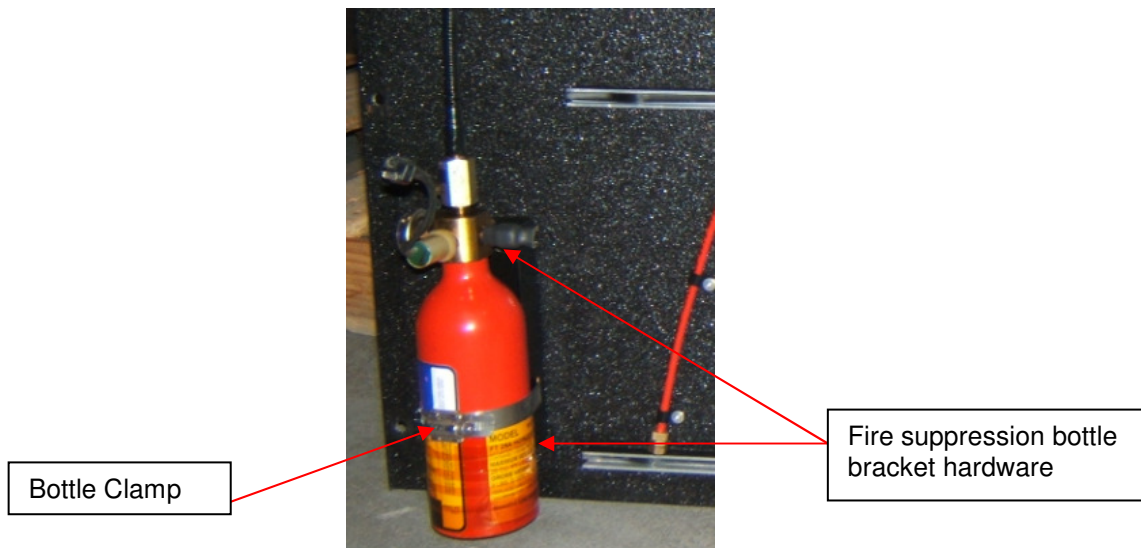

Fig 5 – Fire suppression bottle assembly
- f. On both cabinet covers, loosen clamp for fire suppression bottle and slide out of bracket. Remove hardware securing fire suppression bottle bracket to the cabinet cover. Set bracket, clamp and hardware aside for re-use later. See Fig 5.